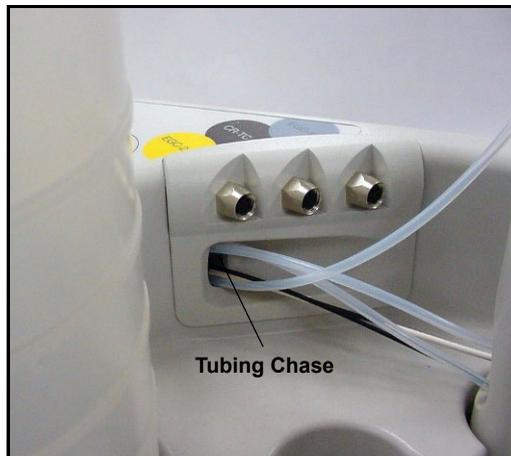

Figure 5-44. Top Cover Tubing Chase
10. Lift the holder out of the top cover and pull the liquid lines through the tubing chase (see Figure 5-44) to remove them from the ICS-2000.